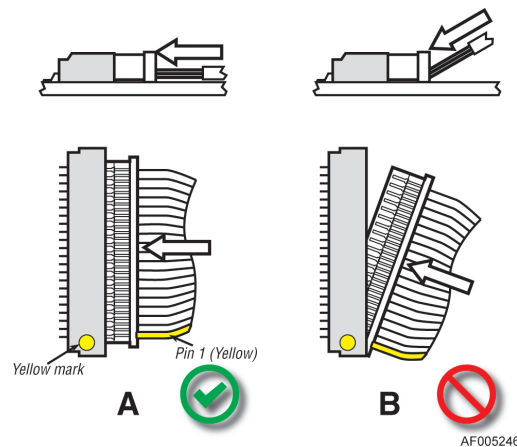

Figure 3. Connect the cable
1. Make sure the yellow pin 1 of the cable is in alignment with the yellow mark on the board connector. Press the connector with your finger and insert with the connector parallel (see **A** in Figure 3). Do not try to insert cable backwards. Doing so will cause damage to the Intel® RAID Maintenance Free backup Unit AXRMFBU2 and Intel® Integrated RAID Module.
2. Do not insert at an angle. Doing so will cause connector deformation or damage, even hardware damage to the Intel® RAID Maintenance Free backup Unit AXRMFBU2 and Intel® Integrated RAID Module (see **B** in Figure 3).